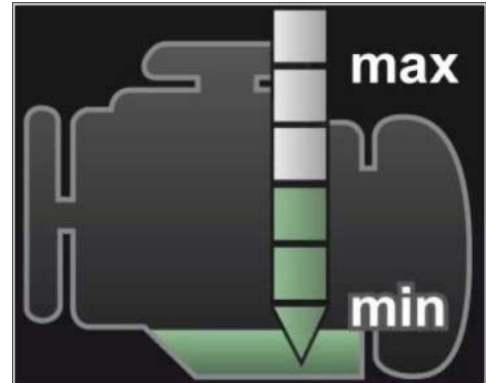

Figure 1
- 2 **Only** if the engine-oil level that is read off the oil level display in the instrument cluster as shown in ⇒ *Figure 1* is **at least two segments below the MAX marking**: Measure the engine-oil level as described in ⇒ *Workshop Manual '170101 Checking engine-oil level'* using the **oil gauge tester T40178** or the **oil dipstick 955 107 068 00** and add engine oil up to the MAX value if necessary (invoicing: Scope 2).